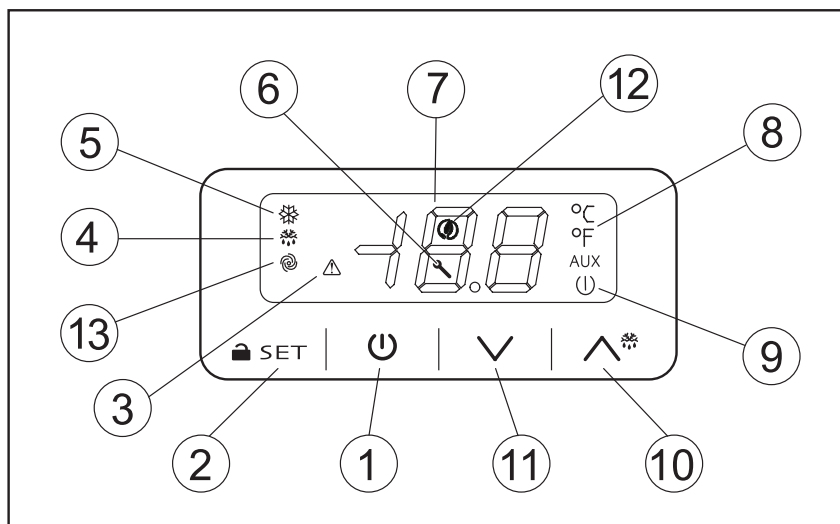

Fig.3
### 9.1 Description of the controls and buttons (Fig. 3)
**Startup sequence (fig.3).**
### 9.2.2 Shutdown methods (fig.3)
### 9.2.3 Temperature setting (fig.3)
### 9.2.4 Automatic and manual defrost (Fig. 3)
### 9.2.5 Keyboard lock (fig.3)
### 9.2.6 Alarms and signals (fig.3)